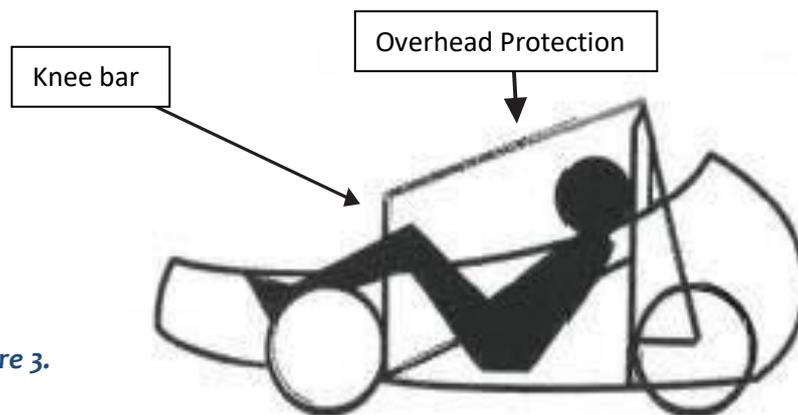

Figure 3.
- 1) Head bar protection be braced longitudinally from its highest point to a substantial chassis/body member see (**figure 3**) or be sufficiently braced within the structure's functional region requiring two braces.